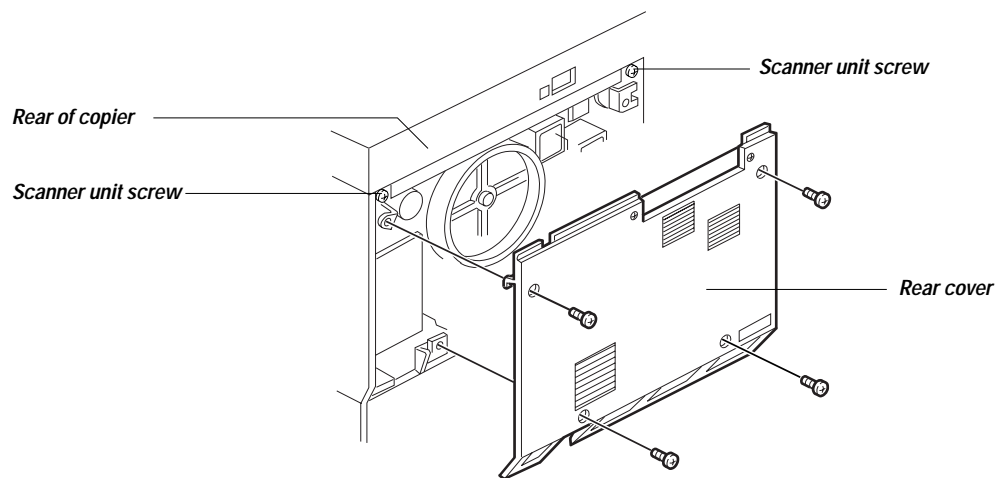

Figure 3-1 Removing the rear cover and scanner unit screws
5. *While you are at the rear of the copier, remove the two screws that attach the scanner unit to the copier (see Figure 3-1).*